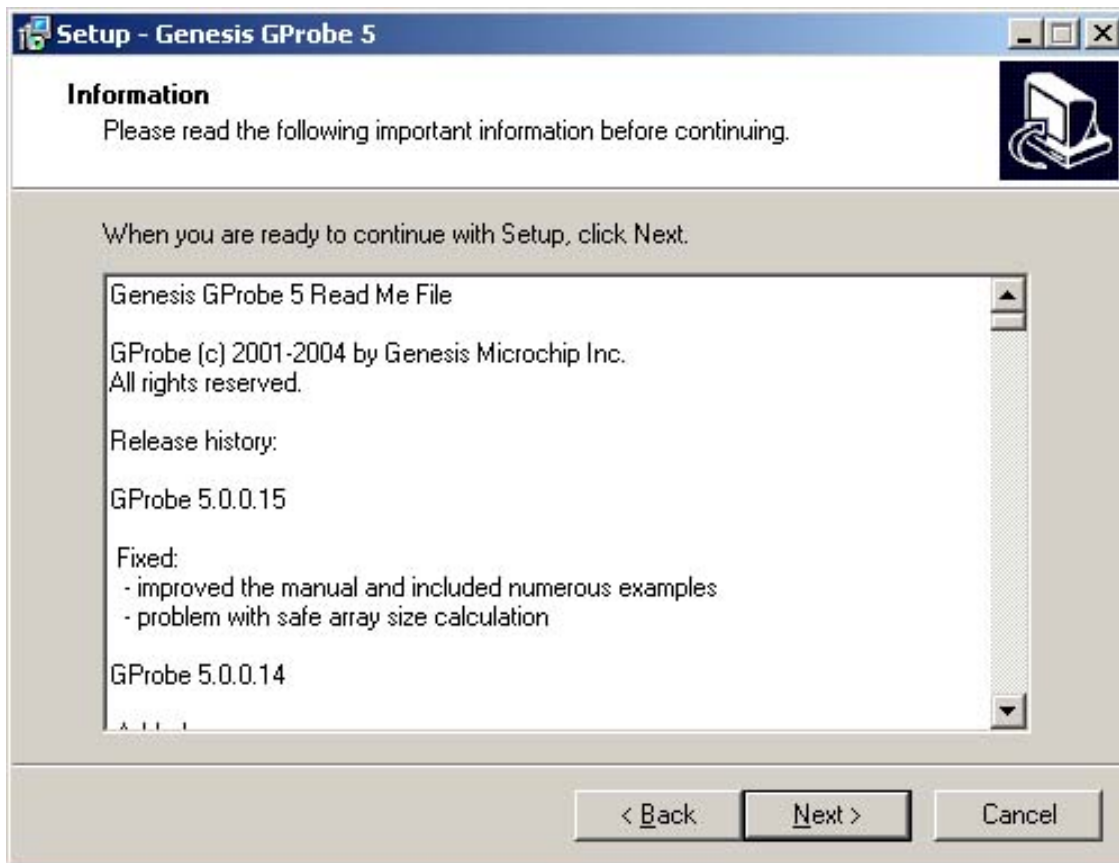

Fig. 0.3
0.3 Check the “I accept the agreement” then press “ Next “ , see Fig. 0.3